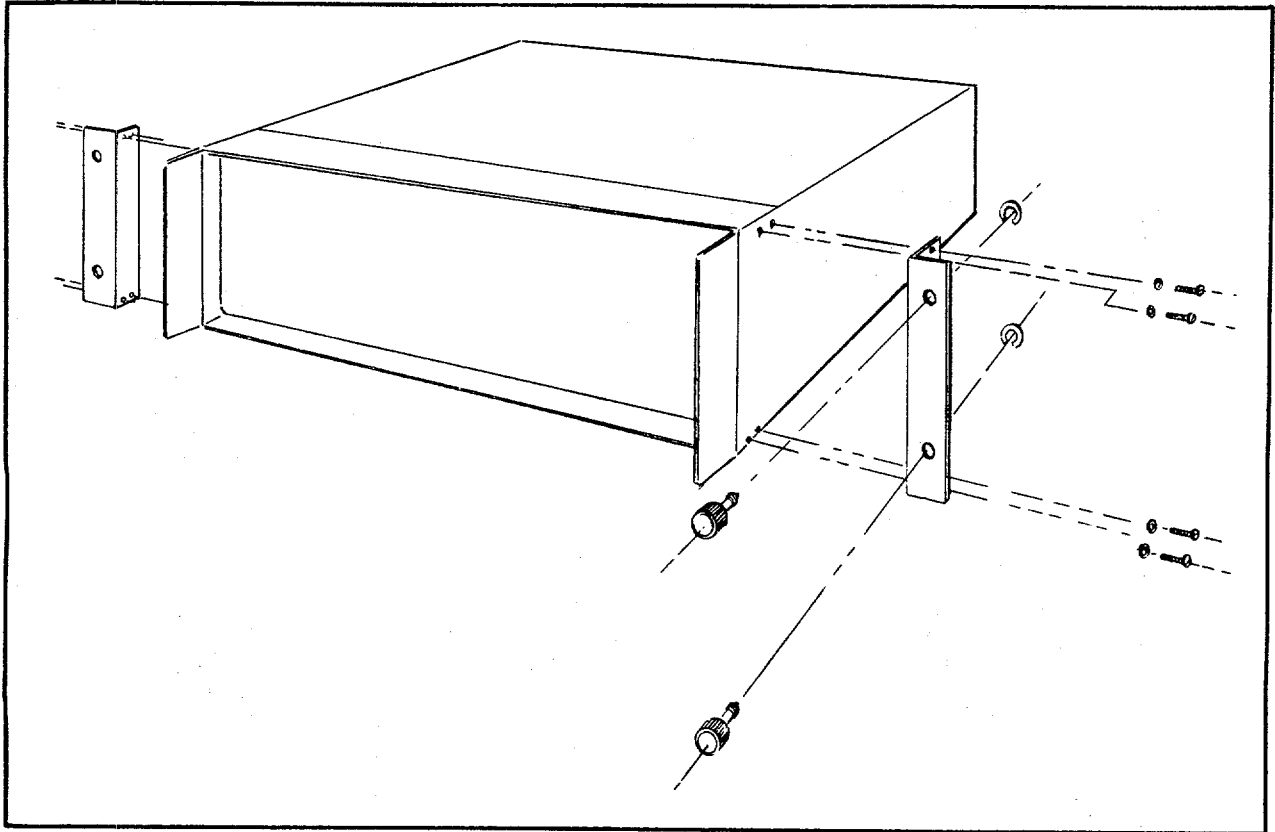

Figure 1-3. Rack Mounting Adapter Kit, Model 74124
(2) Rack Mounting Kit, Model 74124 (Figure 1-3)
The transmitter can be used as a desk-top package or rack mounted. If the unit is to be rack mounted an optional rack-mount adapter kit is available. If the rack-mount kit is used, install the mounting brackets as shown in figure 1-3.